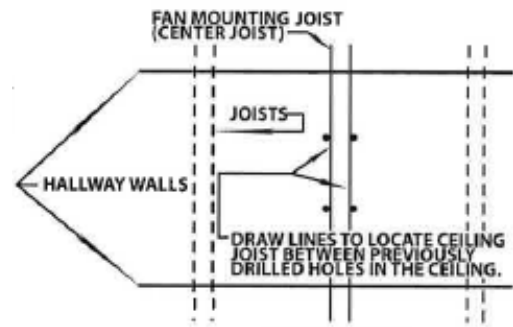

Figure 7
4. From the hallway locate the four nails which locate the joist position. Draw a straight line between the two nails on each side of the joist and extending out beyond the planned hole size (See Fig. 7).